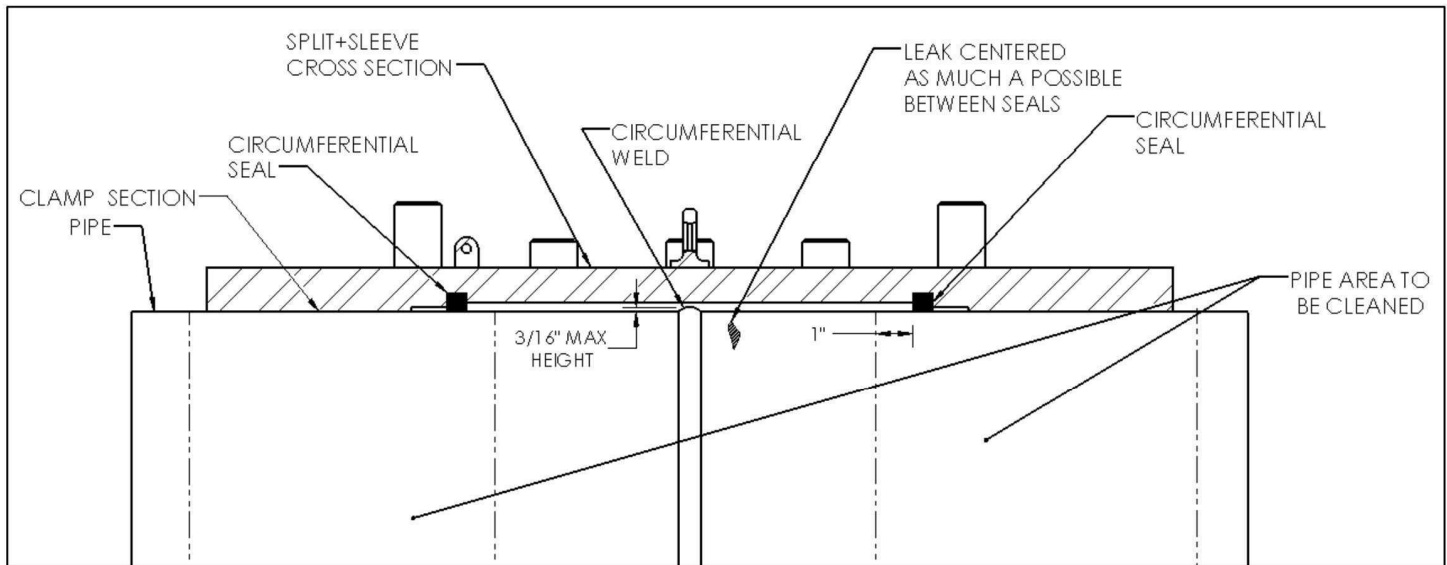

Figure 1
2. Remove all coatings, rust, and scale from the pipe surface where the circumferential seals of the PLIDCO Clamp+Sleeve will contact the pipe (see Figure 1). A near-white finish, as noted in SSPC-SP10 / NACE No.2, is preferred 1" (25mm) before and after the seal. The cleaner the pipe surface, the more positive the seal. Sandblasted surfaces should be buffed smooth.
3. Where the circumferential seals and clamping ends will contact any longitudinal welds, circumferential welds, spiral pipe welds, or other protrusions, the welds in this vicinity must be ground flush with the outside diameter of the pipe. The area should extend 1 inch (25mm) inside of the seals and 1 inch (25mm) beyond the end of the fitting as shown in Figure 1 designated, "*Pipe area to be cleaned*".
4. Circumferential & longitudinal pipe welds between the circumferential seals do not need to be ground flush as long as the weld height does not exceed 3/16 inch (4.7 mm) (see Figure 1).